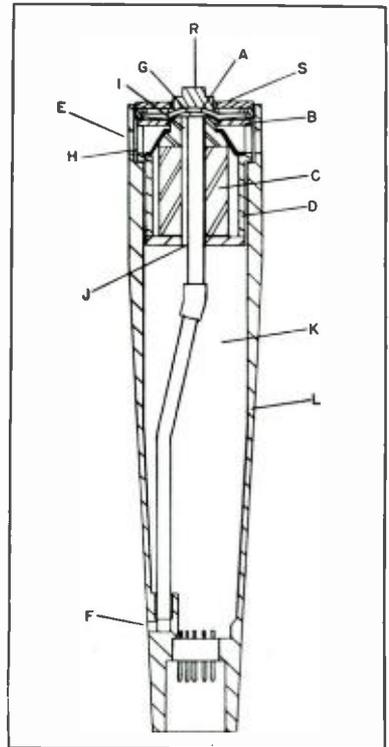
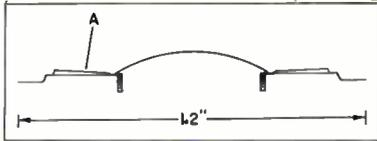

Fig. 9. Cross section of the cardioid microphone.
Fig. 10. Section of the cardioid diaphragm and voice-coil assembly showing the long compliance sections necessary for low resonance.
The curves (A) and (B) of Fig. 9 were run under identical conditions with the exception of the fiberglass stuffing. The curves are untouched (no microphone correction, curve tracer correction, etc.). They are intended to show only differences. The odd shape of the bass end is due mostly to the anechoic room environment.
Figure 9 shows a schematic to illustrate the various sound entrances essential to the performance of such a unit. The cardioid pressure unit consists of the diaphragm and voice coil assembly, A;
pole plate, B; magnet, C; magnetic return, D; high-frequency entrance, E; low frequency entrance, F, which terminates at the sound pressure mixing chamber, G; acoustical resistance, H; an anti-resonant barrier, I; cavity communicating tube, J; main cavity, K and the housing, L. The diaphragm/voice-coil assembly which is the heart of the structure is best described by showing it in a separate drawing, *Fig. 10*. For this design, the device must be mass controlled, which dictates a low resonance point to encompass as large a part of the acoustical spectrum as possible. If
the resonance, however, is chosen to be too low, the structure will be too sensitive to shock excitation and currents of air. The chosen 120 cps resonance represents a compromise of those two factors. Since the mass of the voice coil and diaphragm assembly controls the sensitivity of a microphone, the reduction of the resonance can best be accomplished by increasing the compliance. This is why the cardioid diaphragm configuration contains a long compliance section, *a*, in *Fig. 10*. Otherwise, the remaining parts of the structure are very similar to the omnidirectional design. Because of this, the diameter of the diaphragm is considerably larger and measures 1.2 in. Going back to *Fig. 9*, the zero-incidence sound actuates the front of the diaphragm. At the same time, however, after some delay due to a longer path, the sound enters the high-frequency entrance, E. It, however, is further delayed by passage through the silk layer, H, and its passage through the voice-coil gap which represents an acoustical inductive component. When it strikes the rear of the diaphragm, it is in a different phase relationship in reference to the front sound pressure. To boost the bass response below 120 cps, another entrance is established at F, which is considerably further away from the rear of the diaphragm than point E. The sound entering F is lead through a tube into the mixing chamber of the diaphragm at